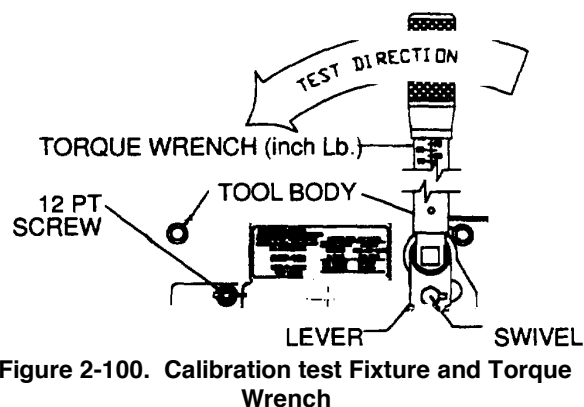

Figure 2-100. Calibration test Fixture and Torque Wrench
(1) *Use of the calibration test fixture and torque wrench to verify safety cable tool indenter adjustment (see figure 2-100).* Thread the safety cable into the 12 pt. screw and through the swivel, holding the lever against the built-in-stop. If the lever is not kept against the stop, the results may be adversely affected. Terminate the safety cable with the tool being tested.
(2) Apply approximately 2 lbs force to the cable with your finger at the line marked "test area". If the cable touches either the side or bottom surface of the test fixture, remove the cable from the test block, and re-install another safety cable being careful to set the tool tension properly, and to hold the lever against the stop.
(3) Place a calibrated 3/8 inch drive torque wrench (capable of indicating 30 inch/lb. for 0.020 inch safety cable, 70 inch/lb. for 0.032 inch safety cable and 110 inch/lb. for 0.040 inch safety cable) into the square drive hole, orienting the test block and torque wrench on a flat surface. Do not over torque the cable.